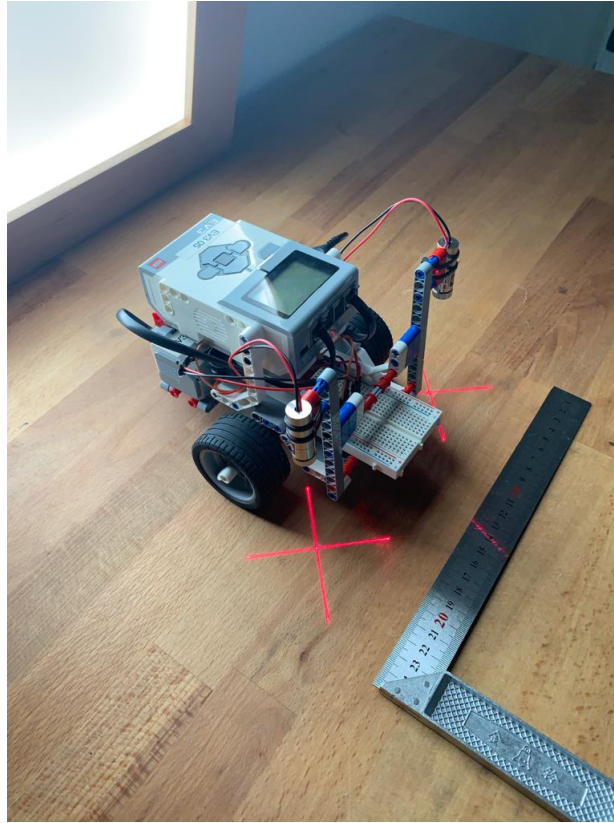

Figure 1.4: Rosa - Another Side View
- The robot is three-wheeled with a differential drive configuration. In this configuration (Figure 1.4), two of the wheels placed in front of the robot on either sides, have independent actuators. The last wheel in the back, is a castor wheel which is non-driven placed for increasing the stability of the bot.